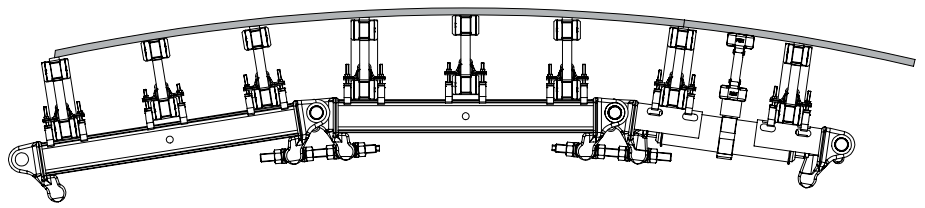

Fig. A5.01
The Articulated Spindle Waler GSRV (2) is used for closing the GRV Circular Formwork on the inside and outside, for compensation and as a striking aid. (Fig. A5.01 + A5.01a)